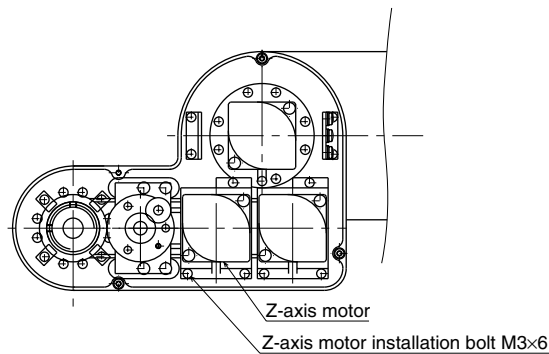

Fig. 4-8 R6YXH250, R6YXH350, R6YXH400
- 7) Remove the bolts securing the Z-axis motor (See Figs. 4-8 to 4-9) and then remove the Z-axis motor.